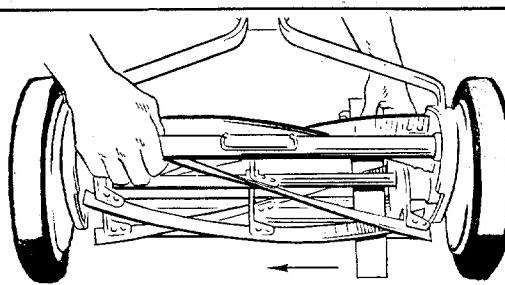

Fig. 4
1. Insert strip of newspaper approx. 2" wide between cutter bar and reel (Fig. 4).